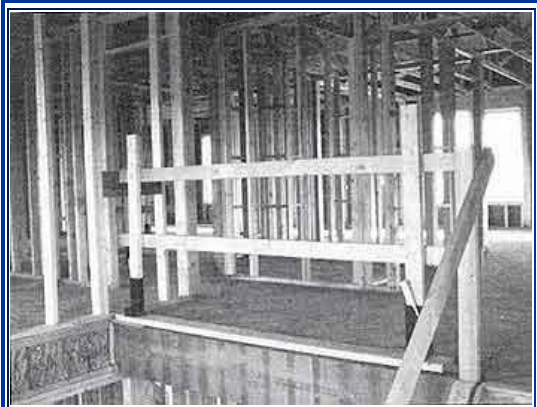

Figure 18. This photograph shows a proper guardrail around a floor opening.
- For excavations and utility trenches over 5 feet deep, use shoring, shields (trench boxes), benching, or slope back the sides. Unless soil analysis has been completed, the earth's slope must be at least 1½ feet horizontal to 1 vertical (Figure 18).